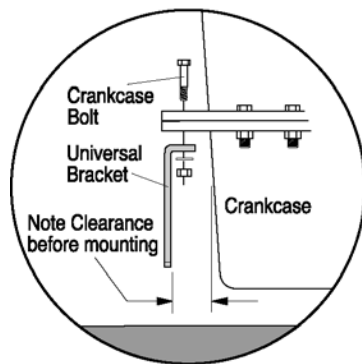

Figure 4A
1. Install the universal bracket to the crankcase using the existing crankcase bolts (Figure 4A). Crankcase bolt diameter must be no larger than 7/16 inch (11mm).